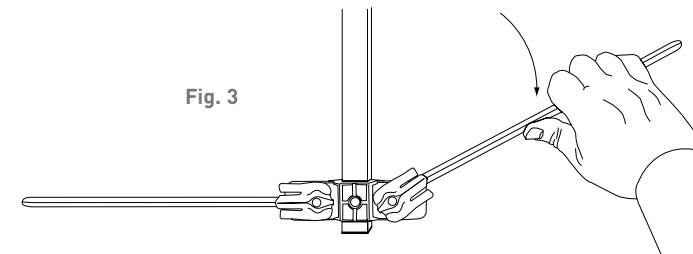

Fig. 3
4. Unfold all the other elements on the antenna until they lock into place ensuring that they are flat and parallel to each other. (See figure 3.)